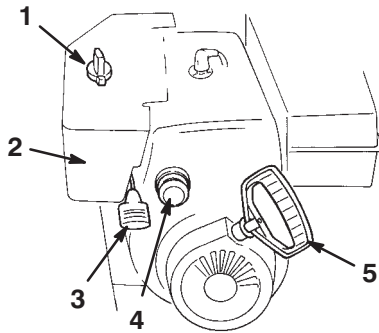

Figure 14
- **Choke** (Fig. 14)—Move the choke to the $\left| \nearrow \right|$ (*Full*) position to start a cold engine. As engine warms up, gradually move the choke to the *Off* position.
- **Ignition Switch** (Fig. 14)—Insert the key before starting the engine. To stop the engine, remove the key.
- **Throttle** (Fig. 14)—Move the throttle upward to increase the engine speed; move it downward to decrease the engine speed. Move the throttle to the *Stop* position to stop the engine.
- **Primer** (Fig. 14)—Press the primer to pump a small amount of gasoline into the engine for improved cold-weather starting.
- **Recoil Starter** (Fig. 14)—The recoil starter is on the back side of the engine. Pull the recoil starter to start the engine.
2. Remove the key from the ignition switch (Fig. 14).
3. Pull the choke knob off (Fig. 14).
2. Move the throttle to the *Fast* position (Fig. 14).
5. Rotate the choke (Fig. 14) to the *On* position.
6. Insert the ignition key (Fig. 14).
7. Cover the hole in the center of the primer (Fig. 14) with your thumb and slowly push in the primer three times, pausing a moment between pushes.
- A. Grasp the recoil starter handle (Fig. 14) and pull it out slowly until positive engagement results; then pull the handle vigorously to start the engine.
9. After the engine starts, immediately rotate the choke (Fig. 14) to the 3/4 position. As the engine warms up, rotate the choke to the 1/2 position. When the engine warms up sufficiently, rotate the choke to the *Off* position.